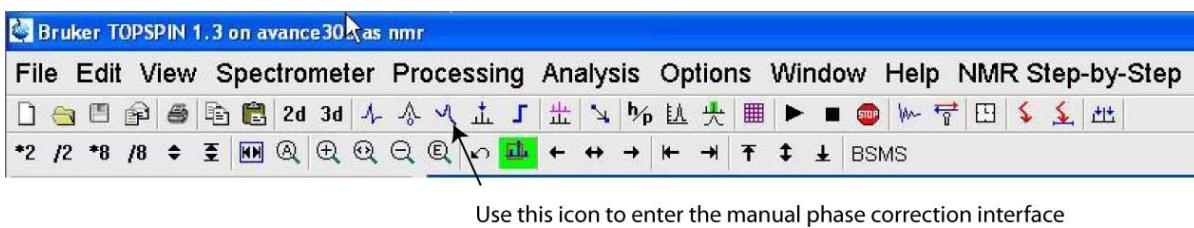

Figure 22 Topspin menu-bar icon for manual phase correction
(19) The manual phase correction interface can be opened by left clicking on the icon shown in Figure 22.